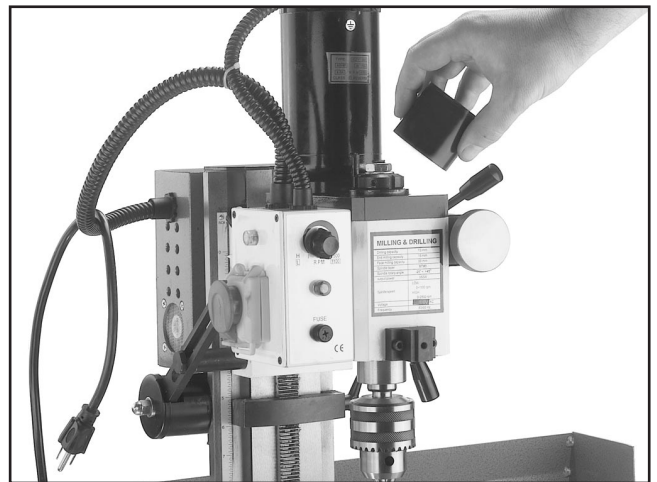

Figure 8. Removing mill/drill spindle cap.
2. Remove the mill/drill spindle cap as shown in **Figure 8**. *Note - if you cannot remove the cap off by pulling on it, give it a sideways bump with your hand.*